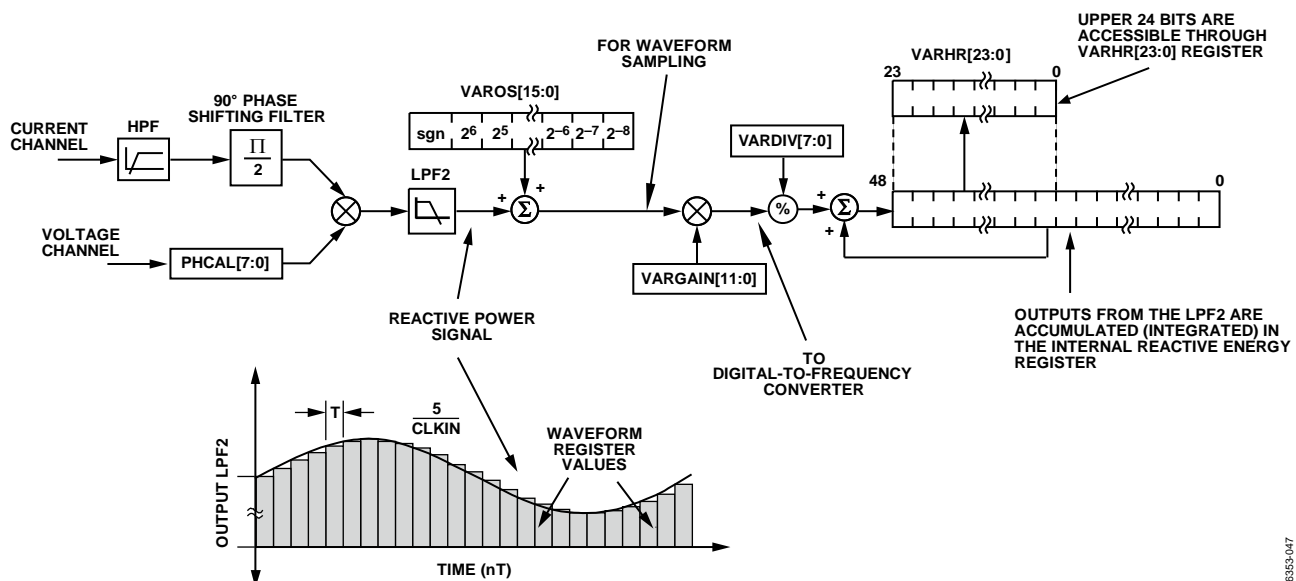

Figure 72. Reactive Energy Calculation
The instantaneous reactive power signal $q(t)$ is generated by multiplying the voltage and current channels. In this case, the phase of the current channel is shifted by 90°. The dc component of the instantaneous reactive power signal is then extracted by a low-pass filter to obtain the reactive power information (see Figure 72).
Figure 72 shows the signal processing chain for the ADE7169/ADE7569 reactive power calculation. As explained in the Reactive Power Calculation (ADE7169/ADE7569) section, the reactive power is calculated by applying a low-pass filter to the instantaneous reactive power signal. Note that, when reading the waveform samples from the output of LPF2, the gain of the reactive energy can be adjusted by using the multiplier and by writing a twos complement, 12-bit word to the var gain register (VARGAIN[11:0], Address 0x1E). Equation 25 shows how the gain adjustment is related to the contents of the var gain register.
The ADE7169/ADE7569 also incorporate a reactive power offset register (VAROS[15:0], Address 0x21). This signed, twos complement, 16-bit register can be used to remove offsets in the reactive power calculation (see Figure 72). An offset can exist in the reactive power calculation due to crosstalk between channels on the PCB or in the IC itself. The offset calibration allows the contents of the reactive power register to be maintained at 0 when no power is being consumed.
The discrete time sample period (T) for the accumulation register in the ADE7169/ADE7569 is 1.22 μs (5/MCLK). As well as calculating the energy, this integration removes any sinusoidal components that may be in the active power signal. Figure 72 shows this discrete time integration or accumulation. The reactive power signal in the waveform register is continuously added to the internal reactive energy register.
As shown in Figure 72, the reactive power signal is accumulated in an internal 49-bit, signed register. The reactive power signal can be read from the waveform register by setting the WAVMODE register (Address 0x0D) and setting the WFSM bit (Bit 5) in the Interrupt Enable 3 SFR (MIRQENH, Address 0xDB). Like the current and voltage channel waveform sampling modes, the waveform data is available at sample rates of 25.6 kSPS, 12.8 kSPS, 6.4 kSPS, and 3.2 kSPS.